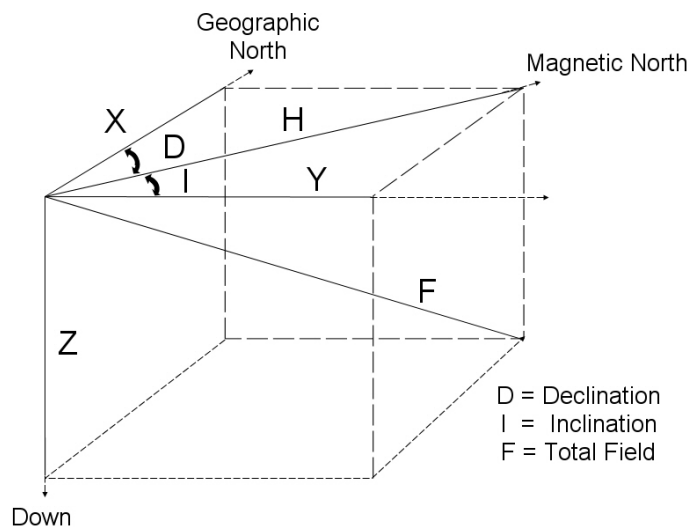

Figure 1.1
The earth's magnetic field (a vector field having both amplitude and direction) is described by an intensity (total field intensity, T), an inclination (I) and a declination (D), Figure 1.1. For Specific applications, horizontal and vertical field components can be derived from T, D. and I